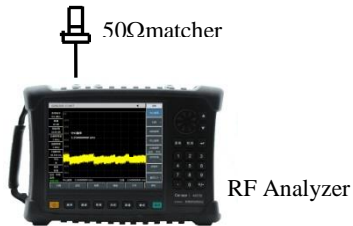

Figure 16-15 Setting of Residual Response Test
- a) Connect the 50 Ω matcher on the spectrum input port of the instrument according to Figure 16-15, and set the instrument as follows: